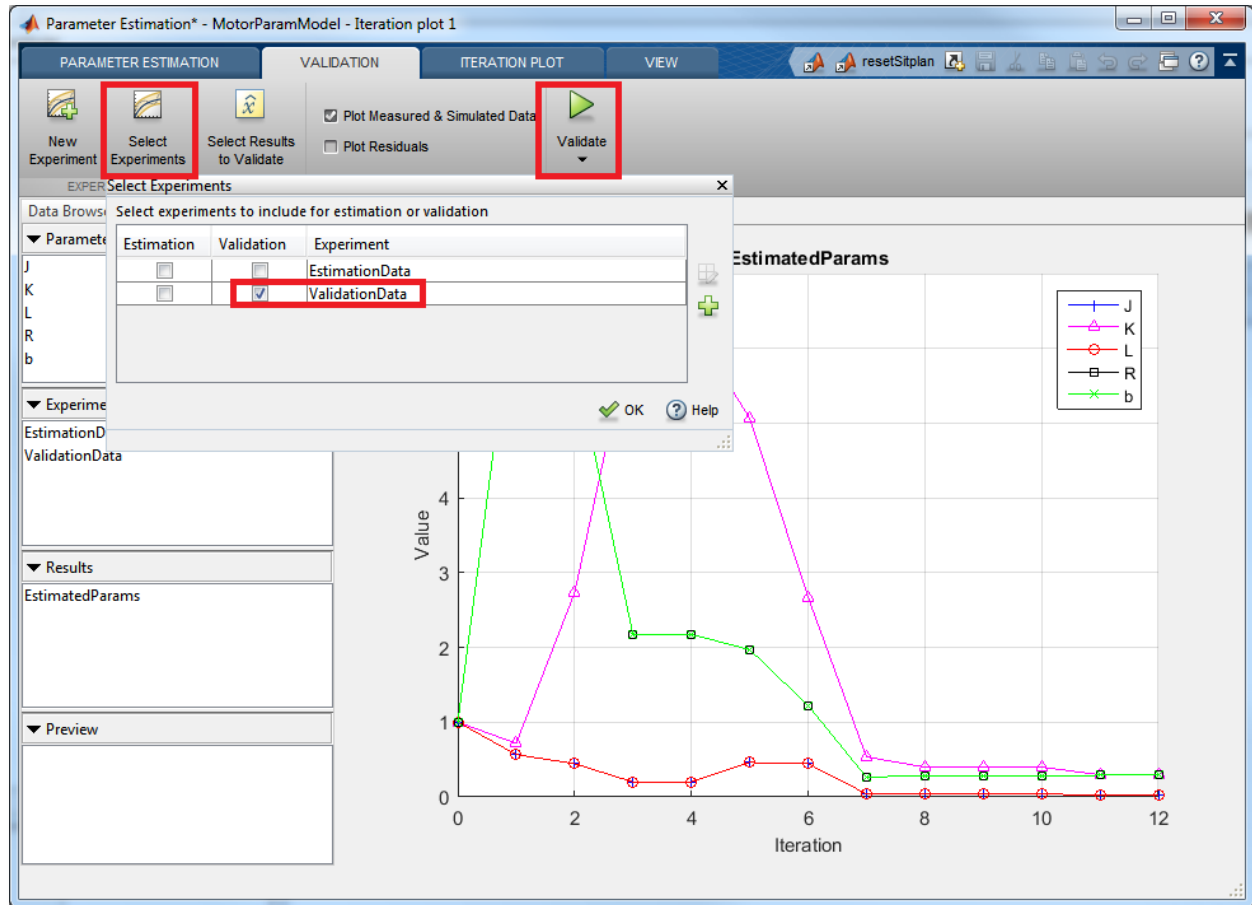

Figure 40 - Parameter Estimation Tool – Validation
6. Next, navigate to the **'Validation'** tab. Click 'Select Experiments', check 'ValidationData' check box under 'Validation' and click on **'Validate'** as shown in Figure 40.